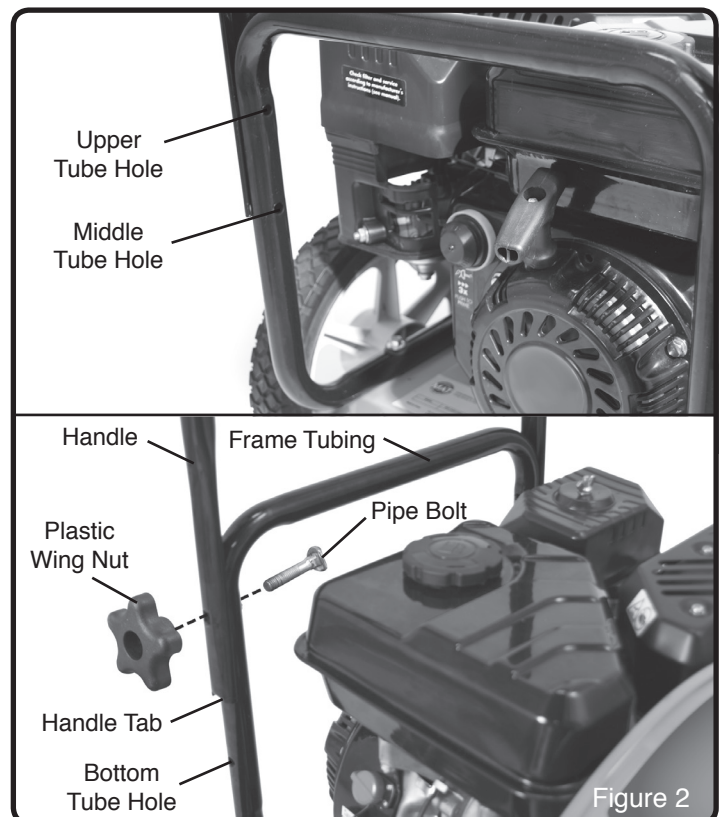

Figure 2
**NOTE:** There are two positions in which the handle can be attached – a high position and a low position. (See Figure 2)
1. Assemble the handle tabs into the holes on the lower frame tubing. Use the bottom holes for the low handle position. Use the middle holes for the high handle position. (See Figure 2)
2. Secure the handle onto the frame tubing with the (2) pipe bolts and the (2) plastic wing nuts. Firmly hand-tighten the wing nuts. (See Figure 2)